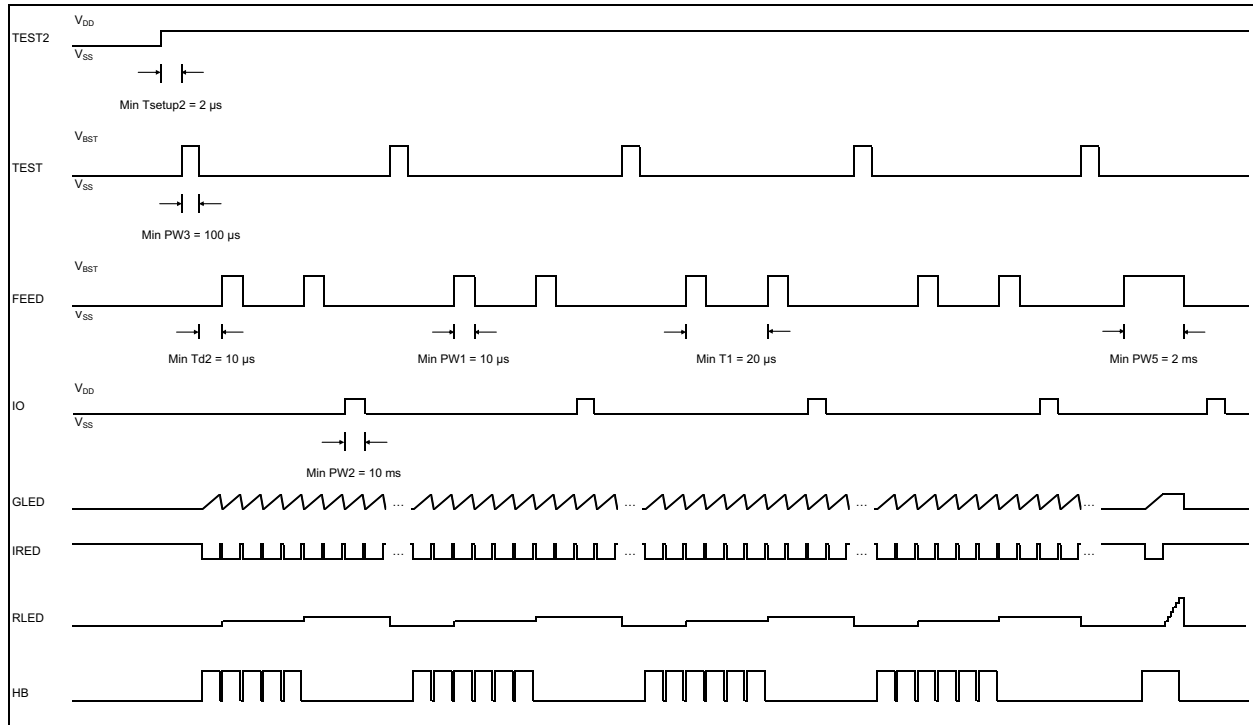

FIGURE 4-4: Timing Diagram for Modes T1 to T5.
3. Apply a clock pulse to the TEST input to enter in T1 mode. This initiates the calibration mode for Normal Limits setting. The Integrator output saw tooth should appear at GLED and the smoke detection level at RLED. Clock FEED to increase the smoke detection level as needed. Once the desired smoke threshold is reached, the IO input is pulsed low to high to enter the result. See typical waveforms in Figure 4-4. Operating the circuit in this manner, with nearly continuous IRED current for an extended period of time, may result in undesired or excessive heating of the part. The duration of this step should be minimized.